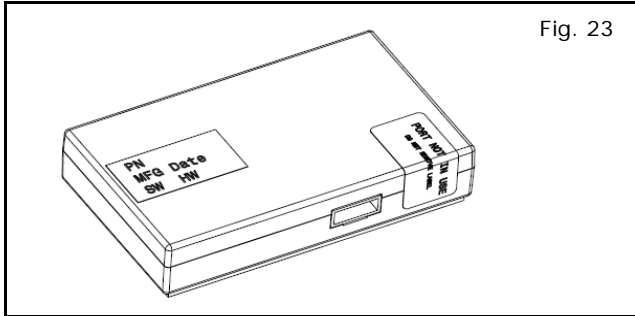

Fig. 23
24) ECU connection port identification (Fig. 23).